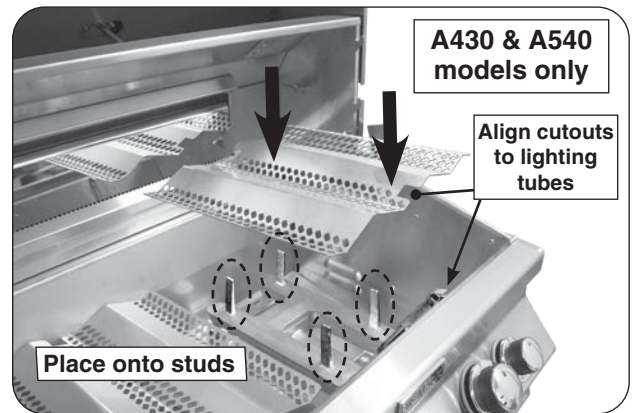

Fig. 21-2 Install flavor grids
**A430 and A540 models:** Place the flavor grids directly onto the studs on the burners. Align the cutouts to the lighting tubes. See Fig. 21-2. **The slightly larger grids are designed to be placed over the outside burners, and the slightly smaller grid over the inner burner.** The flavor grids allow heat from the burners to be evenly distributed throughout the cooking area.